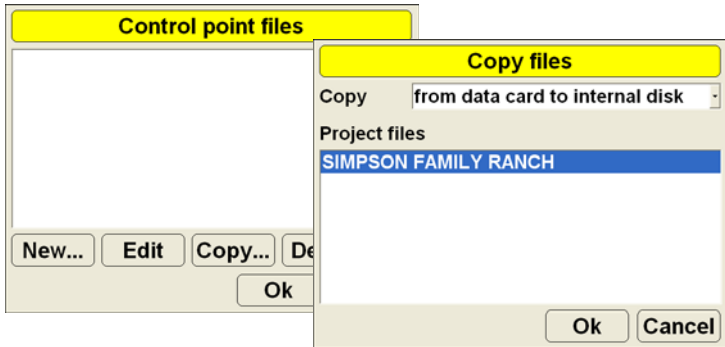

Figure 5-34. Select File To Copy
2. When the 3DMC main screen displays, click **Topcon Logo ▶ File** and then the desired file type (Figure 5-34 on page 5-27).
- To copy from the USB storage device to the control box, select “from data card to internal disk” from the *Copy* drop-down list, then select the Design Surface file from the displayed files (Figure 5-34 on page 5-27).